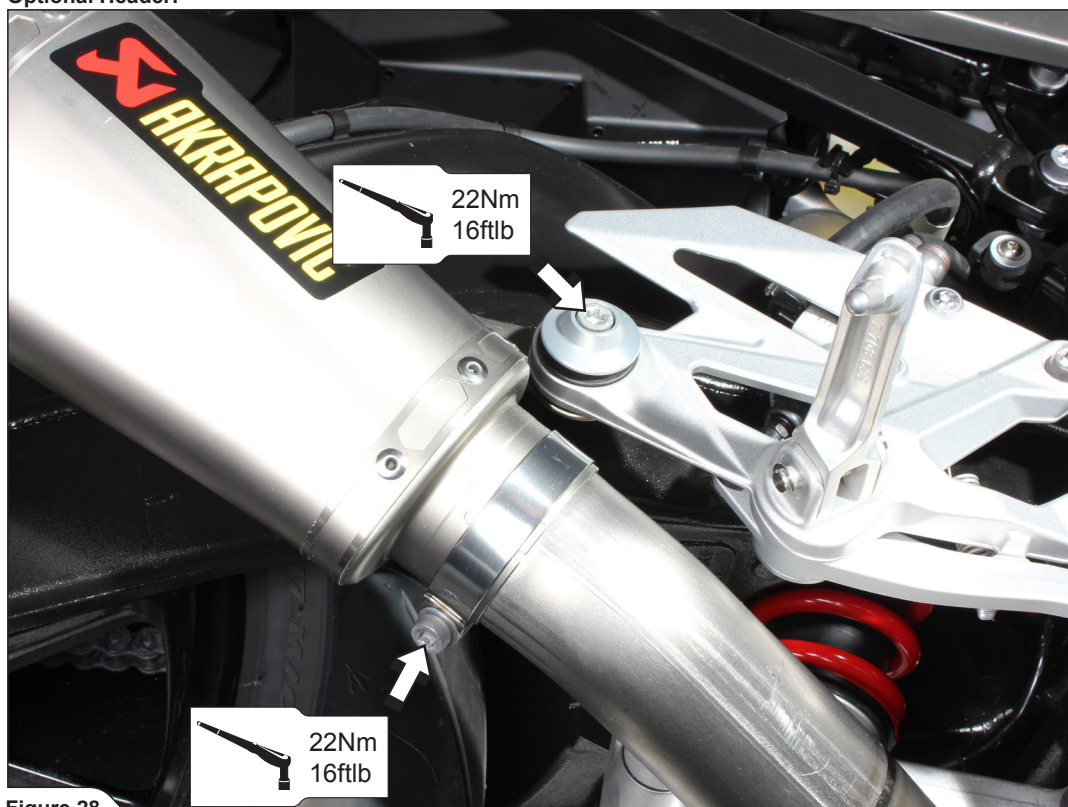

Figure 28
6. Replace the Slip-On muffler's intake clamp with the clamp from optional Header installation kit (clamp without brackets for heat shield). Slide the muffler onto the link pipe. Align the muffler in respect to the motorcycle, tighten the muffler to the bracket (using stock bolt and aluminium washer and additional Akrapovič nut and washer) and tighten the clamp at the muffler - link pipe joint, to the specified torque (Figure 28).